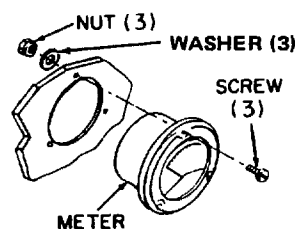

Figure 4-28. Typical Meter, Removal and Replacement
d. Replacement. Tag and disconnect leads going to meter M9. Remove and replace meter M9 as illustrated in figure 4-28.
c. Replacement. Tag and Disconnect leads going to meter M7. Remove and replace meter M7 as illustrated in figure 4-28.
c. Replacement. Tag and disconnect leads going to meter M8. Remove and replace meter M8 as illustrated in figure 4-28.